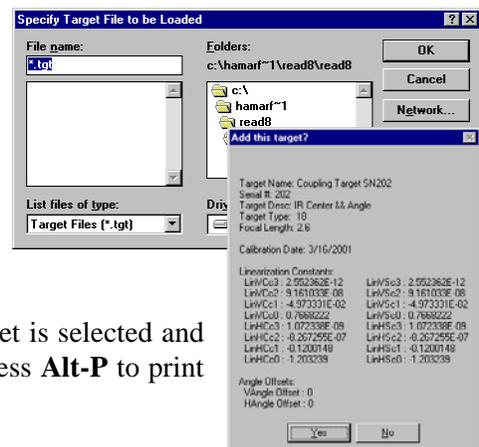

Figure 28 – Loading Target File
3. **Load the Target File (Alt-L).** Load the file containing the target linearization coefficients. Hamar Laser provides this file on a diskette when a T-1275 target is purchased (see Figure 28).